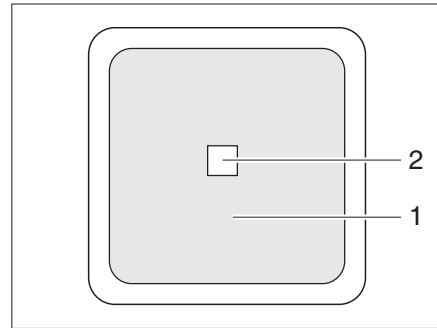

Fig. 241 External switch
- II "Remo." = unit can be switched on and off at the external switch (Fig. 241,1).
The external switch for the converter (Fig. 241) is located in the interior of the vehicle or in the garage. The switch is labeled with "Converter". The LED (Fig. 241,2) indicates the operating state of the converter.